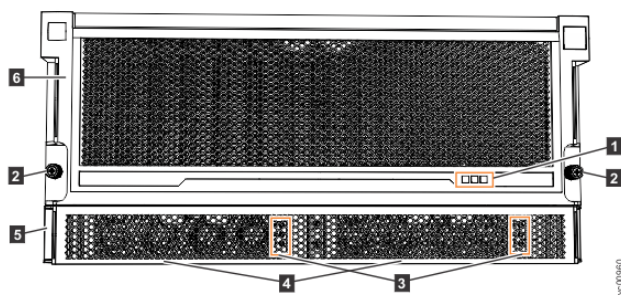
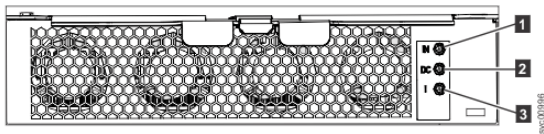

Figure 182. LEDs on the front of the expansion enclosure
Figure 183. LEDs on the front of a power supply unit
As Figure 182 on page 221 shows, the front of the 5U expansion enclosure contains LEDs for the display panel (1) and for each of the power supply units (3).
The 5U expansion enclosure contains two PSUs (4) in Figure 182 on page 221) that are accessible from the front of the enclosure. Each PSU has its own a set of LEDs, as shown in Figure 183 on page 222.